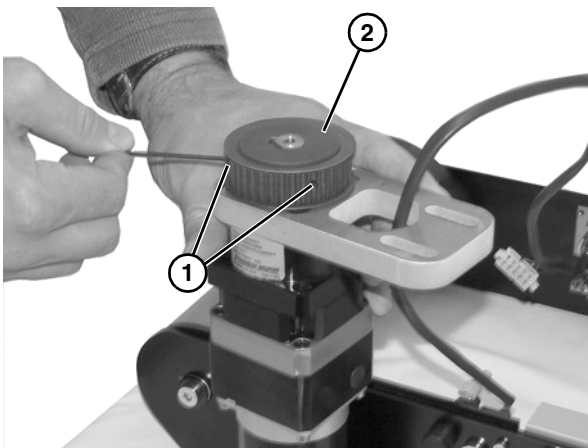

Figure 64
8. Loosen two set screws (**Figure 64, item 1**) holding drive motor gear (**Figure 64, item 2**) onto drive motor shaft.